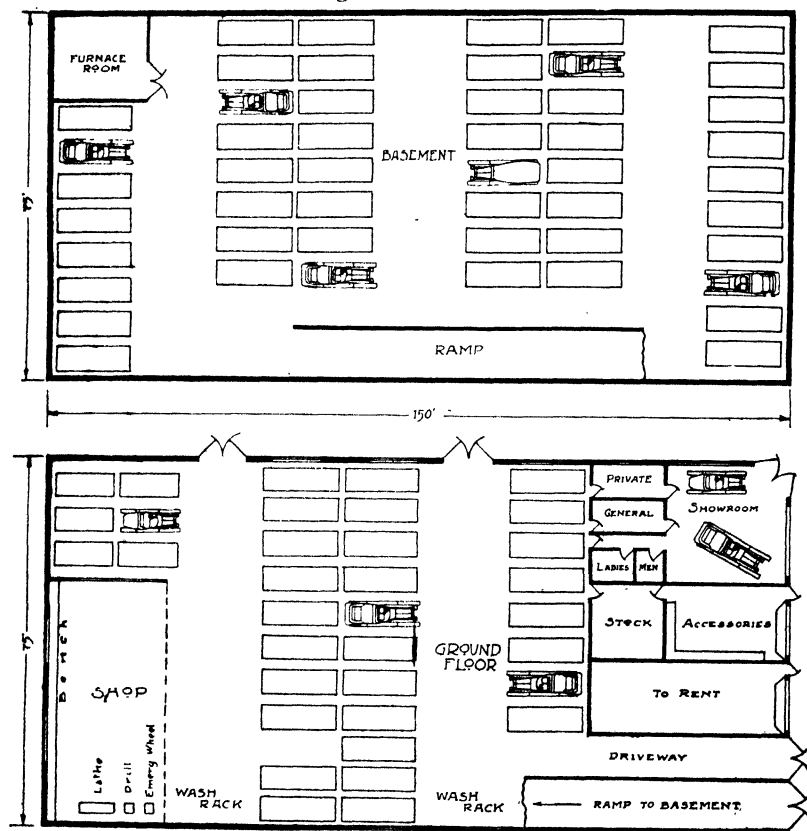

Fig. 18. Basement and Ground Floor of a Large Garage, Using Ramps
*Layout 12.* Another garage of about this same total capacity is shown in Fig. 18, but this is both wide and deep, and has a basement